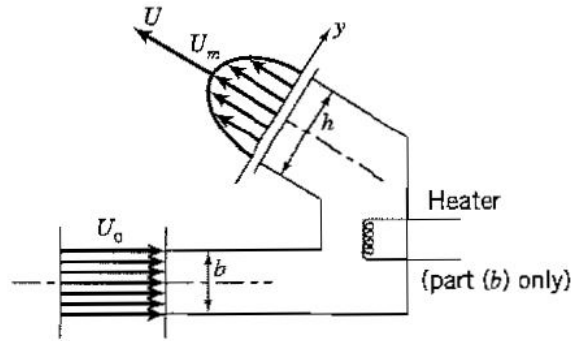

Figure P3.26
3.26 A two-dimensional duct of constant width carries a steady flow of constant density fluid (density ρ), as shown in Figure P3.26. At the entrance, the velocity is constant over the area and equal to U_0 . At the exit, the velocity profile is parabolic according to $U = U_m (1 - (2y/h)^2)$.